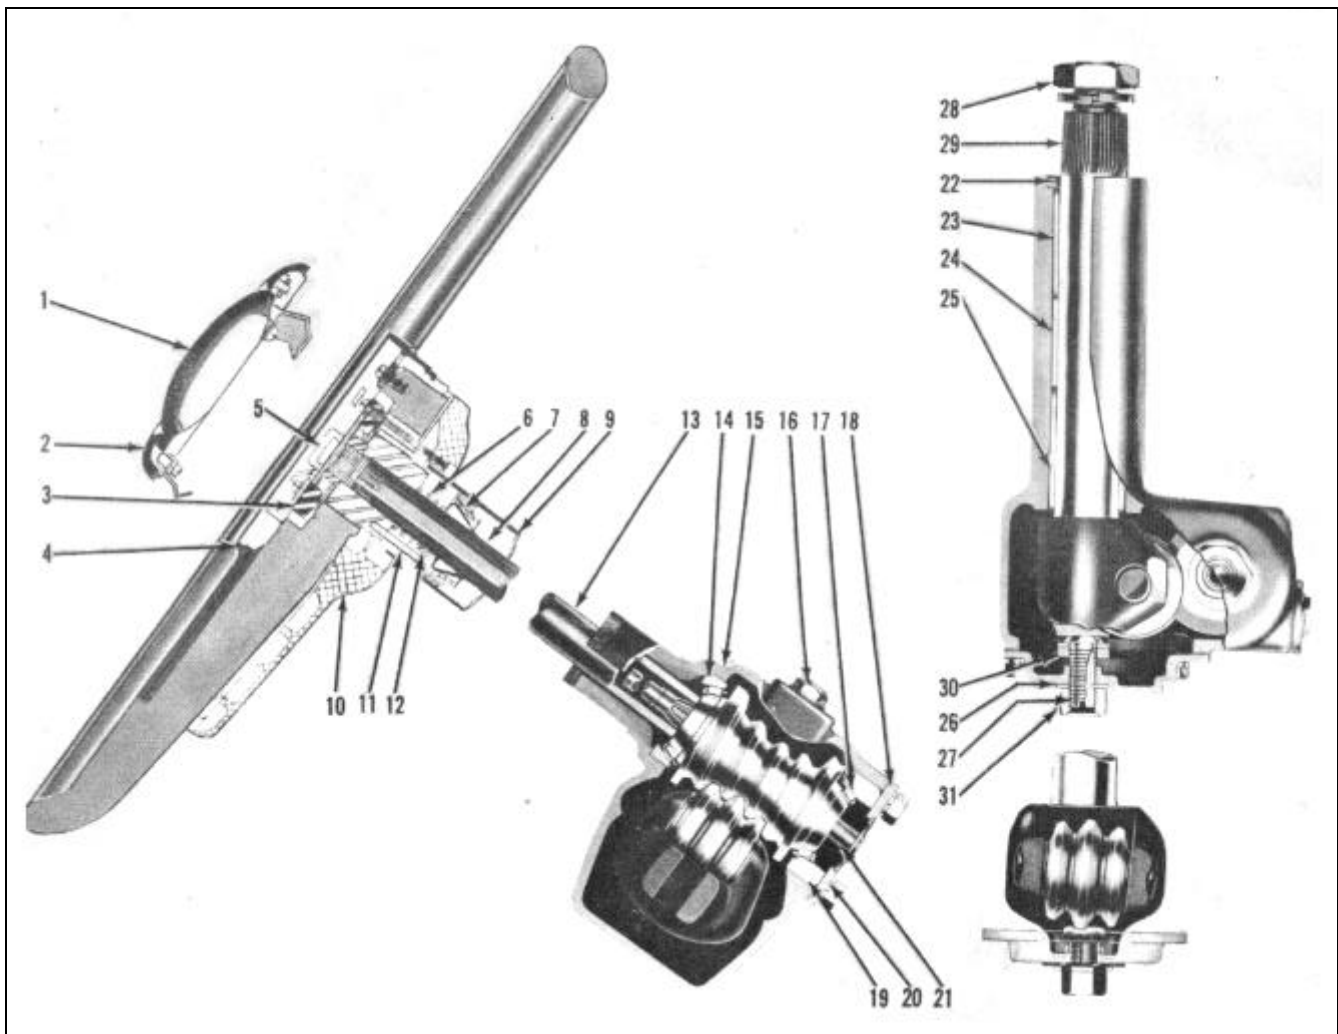

FIGURE 1
1. Pry ornament and ring assembly (2), Figure 1, out of steering wheel spoke cover.
2. Remove three screws attaching horn ring insulator (3) to horn ring.
3. Disconnect horn wire at horn relay and remove insulator ring, contact cup (5) and wire.
2. Place horn ring (10), Figure 1, over steering column jacket tube (9).
4. Insert horn wire, contact cup (5) and insulator (3)